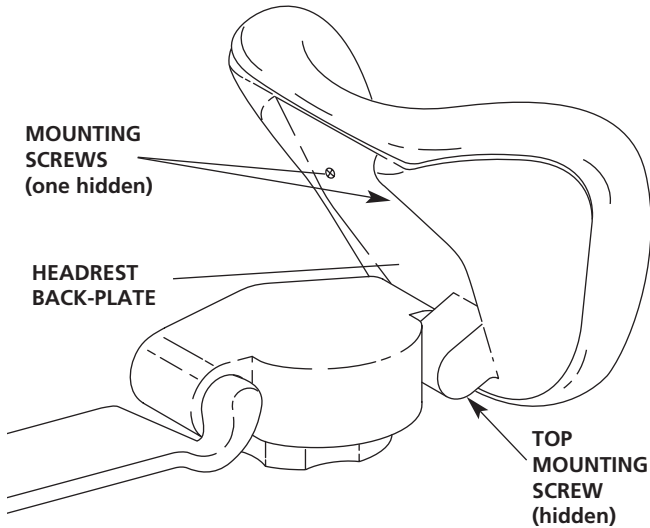

Figure 9. Replacing the Headrest Upholstery
3. Rotate the headrest back  $45^\circ$  to expose the two Phillips mounting screws on the lower headrest back-plate (see Figure 9). Remove the two screws and the headrest cushion.